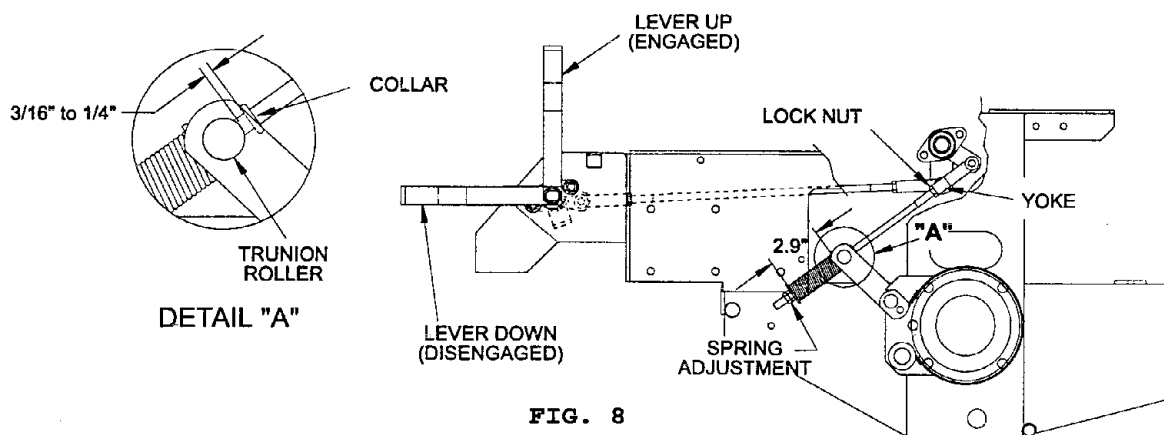

FIG. 8
- b) Measure the length of the spring. Measurement should be 2.9" between washers (see Fig 8).
- e) Measure the distance between the trunion roller and the collar (welded to rod) as shown in Fig. 8A. Measurement should be 3/16" to 1/4" (See Fig 8). A 3/16" or 1/4" square key works well as a shim guage.
- f) If adjustment is necessary, loosen the nut directly below the yoke. Turn the bottom nut (below washer) until the correct measurement is obtained (See Fig 8) turn nut clockwise to lengthen the gap (screws rod into yoke) and turn counter-clockwise to shorten the gap (screws rod out of yoke). Tighten nut against yoke and check opposite side of unit, repeat if necessary.